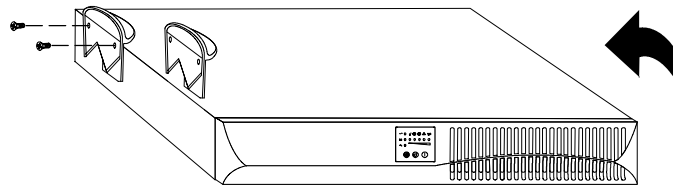

Figure 6. Installing UPS Pedestals with Two Cabinets
5. Place the UPS cabinet horizontally so that the left end of the unit is accessible (see Figure 6).